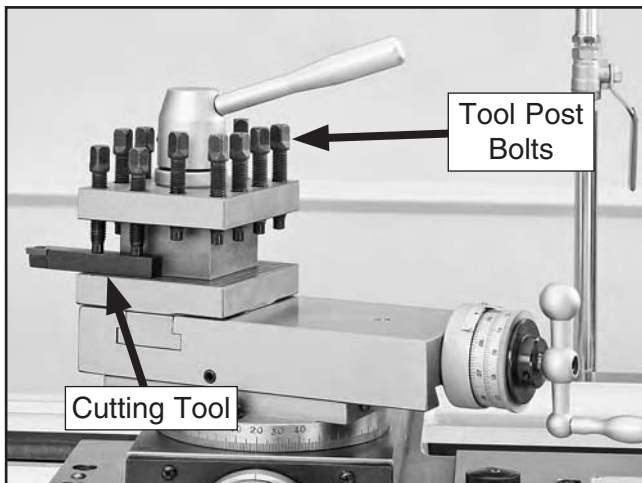

Figure 68. Example of tool mounted in a four-way tool post.
1. Loosen the tool post bolts so that the cutting tool can fit underneath them (see the example in **Figure 68**).